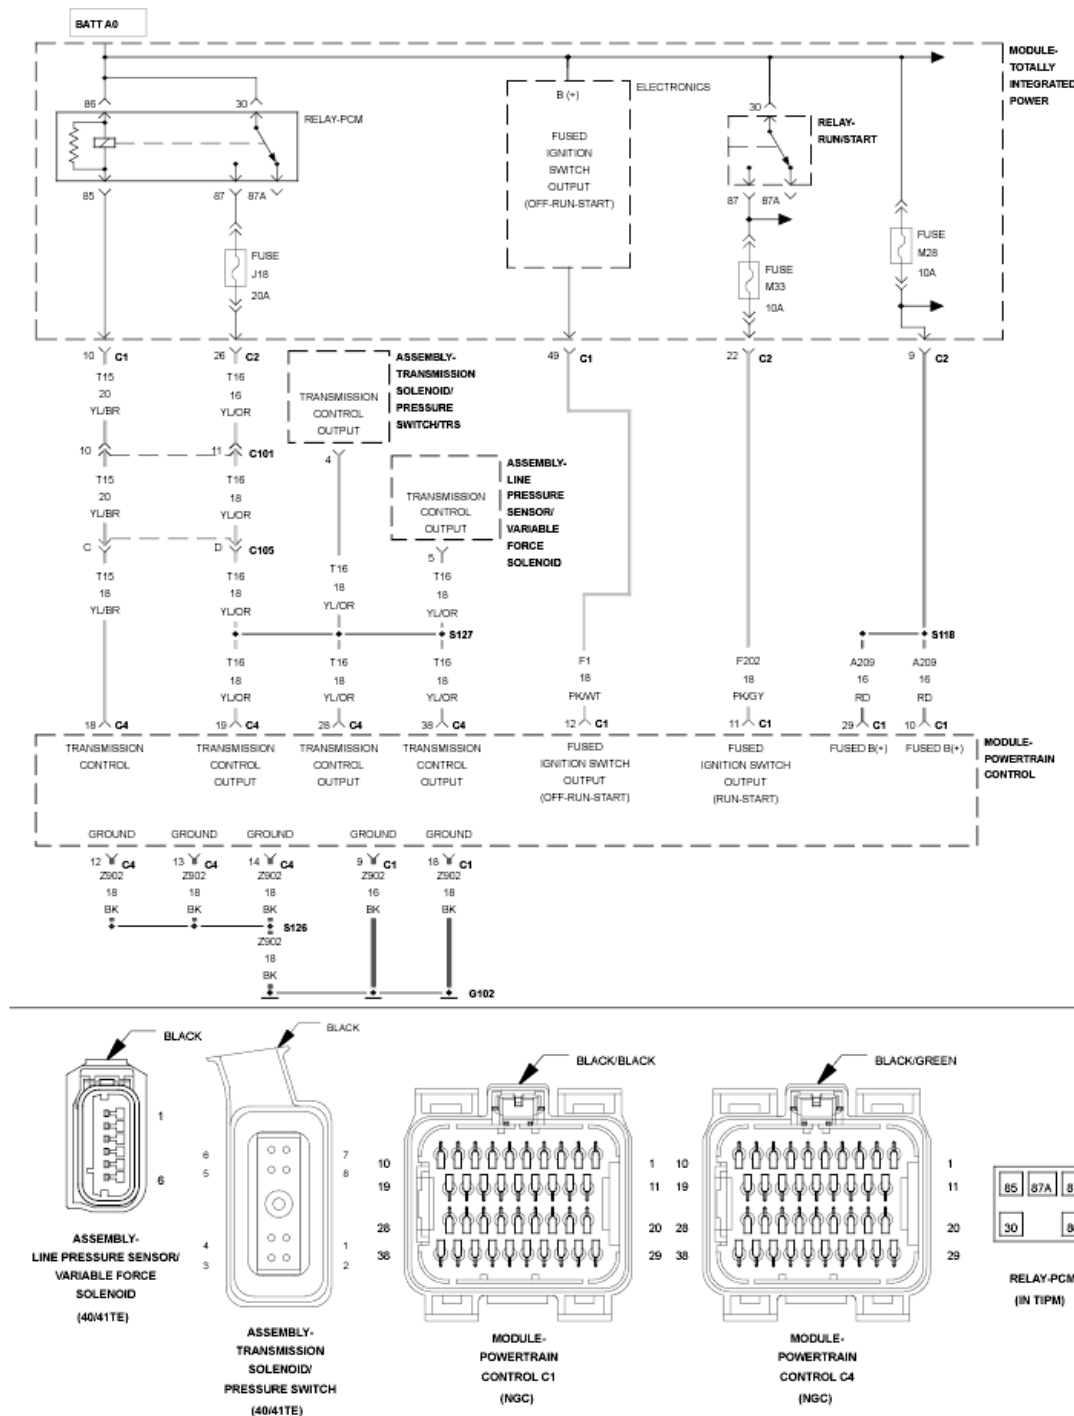

Fig. 74: TCM Power Control - Circuit Schematic
2. Using **Fig. 74** as a guide, inspect the wiring and connectors.